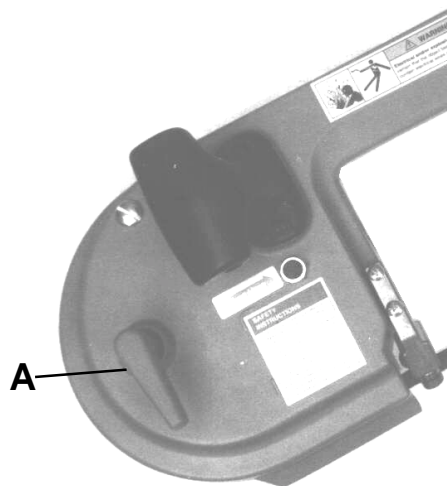

Fig. 2.
TO REMOVE BLADE - Turn handle (A), Fig. 2, clockwise to release tension on the saw blade. Remove the blade, first from the pulleys and then from the blade guide.
Turn handle (A), Fig. 2, counterclockwise as far as it will go. This reinstates tension on saw blade.